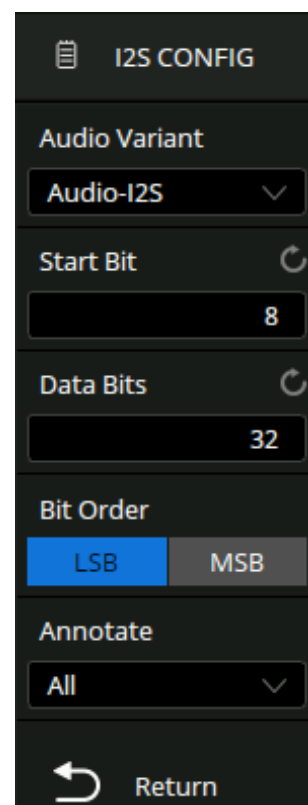

Figure 10.41 I2S CONFIG
1. The **I2S CONFIG** menu will be displayed. (Figure 10.41)